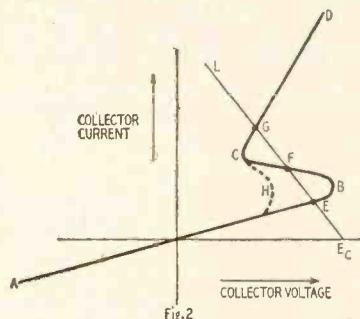

Fig.2
P1 and P2 adjust the emitter and collector voltages. The output characteristic of the point-contact transistor is shown in Fig. 2. The lowest portion AB shows positive resistance. At higher currents there is a kink in the curve indicated by BC. This portion has negative resistance. Thereafter, the resistance goes positive again (CD). The peak B varies with emitter bias. A more positive emitter reduces the peak, for example from B to H.